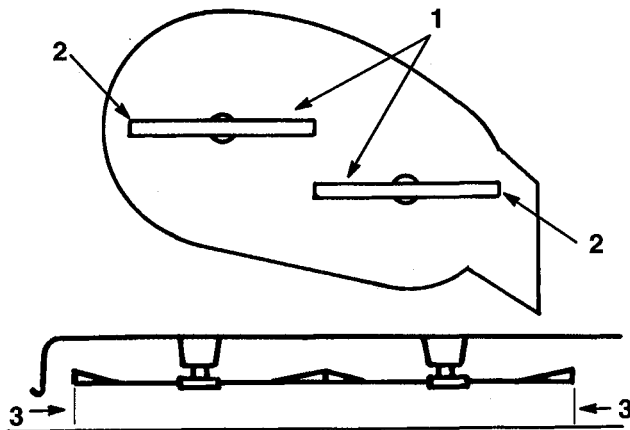

Figure 49
4. Carefully rotate blade(s) side to side (Fig. 49). Measure between the outside cutting edges and the flat surface (Fig. 49). If both measurements are not within 3/16" (4.762mm), an adjustment is required; refer to steps 5 and 6.